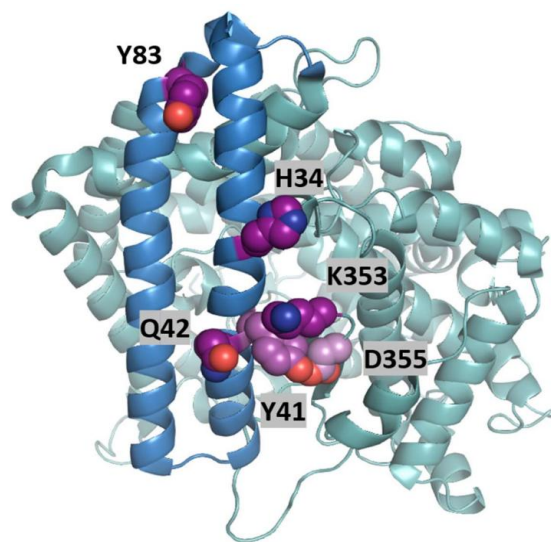

Figure 1: ACE2 interface where interesting residues from the computational alanine scanning are shown as spheres
In Figure 1, you have a partial vision of the interface between receptor and the chemokine. Here, you are requested to design one mutation (specifically on the CXCR4 side) that aims at stabilizing the binding between CXCR4 and CXCL12. Please explain the logic behind it.
Figure 1. Extracellular loop 3 region of CXCR4 (light blue) and N-terminal region of CXCL12 (green). Residues belonging to CXCR4 that are within 5 Å from the chemokine are highlighted in Magenta. Hydrogens are shown in white.
- b) Shown below is the structure of ACE2 where residues that contribute strongly to binding the spike RBD are highlighted in sphere representation (Fig. 1). Out of the highlighted residues, H34, Q42, and K353 were chosen for computational saturation mutagenesis (Fig. 2). Which of the positions (H34, Q42, or K353) would you choose to mutate if you aim to optimize the binding interface between ACE2 and the RBD? And which of the mutations shown in Fig. 2 would you use as a starting point for design that would optimize the binding interface? Justify your answer.